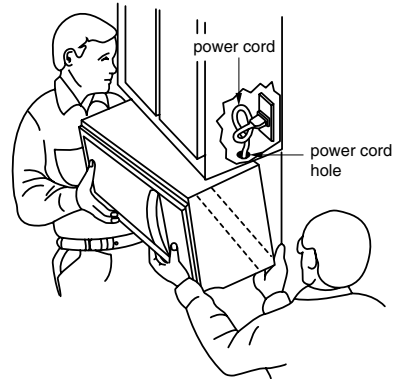

Figure 30
1. Carefully lift microwave oven and hang it on support tabs (See Figure 26 at the bottom of the mounting plate.) Reaching through upper cabinet, thread power supply cord through the power supply cord hole in the bottom of the upper cabinet. See Figure 30.